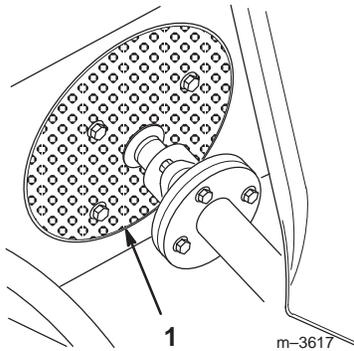

Figure 8
- Wipe away any accumulated debris from the rotating air-intake screen (Fig. 8).